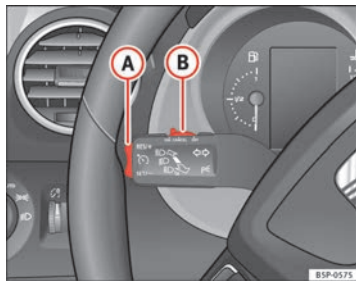

Fig. 154 Turn signal and main beam headlight lever: switch and rocker switch for the cruise control
- Press the lower part **SET/-** of the rocker switch ⇒ fig. 154 **A** once briefly when you have reached the speed you wish to set.